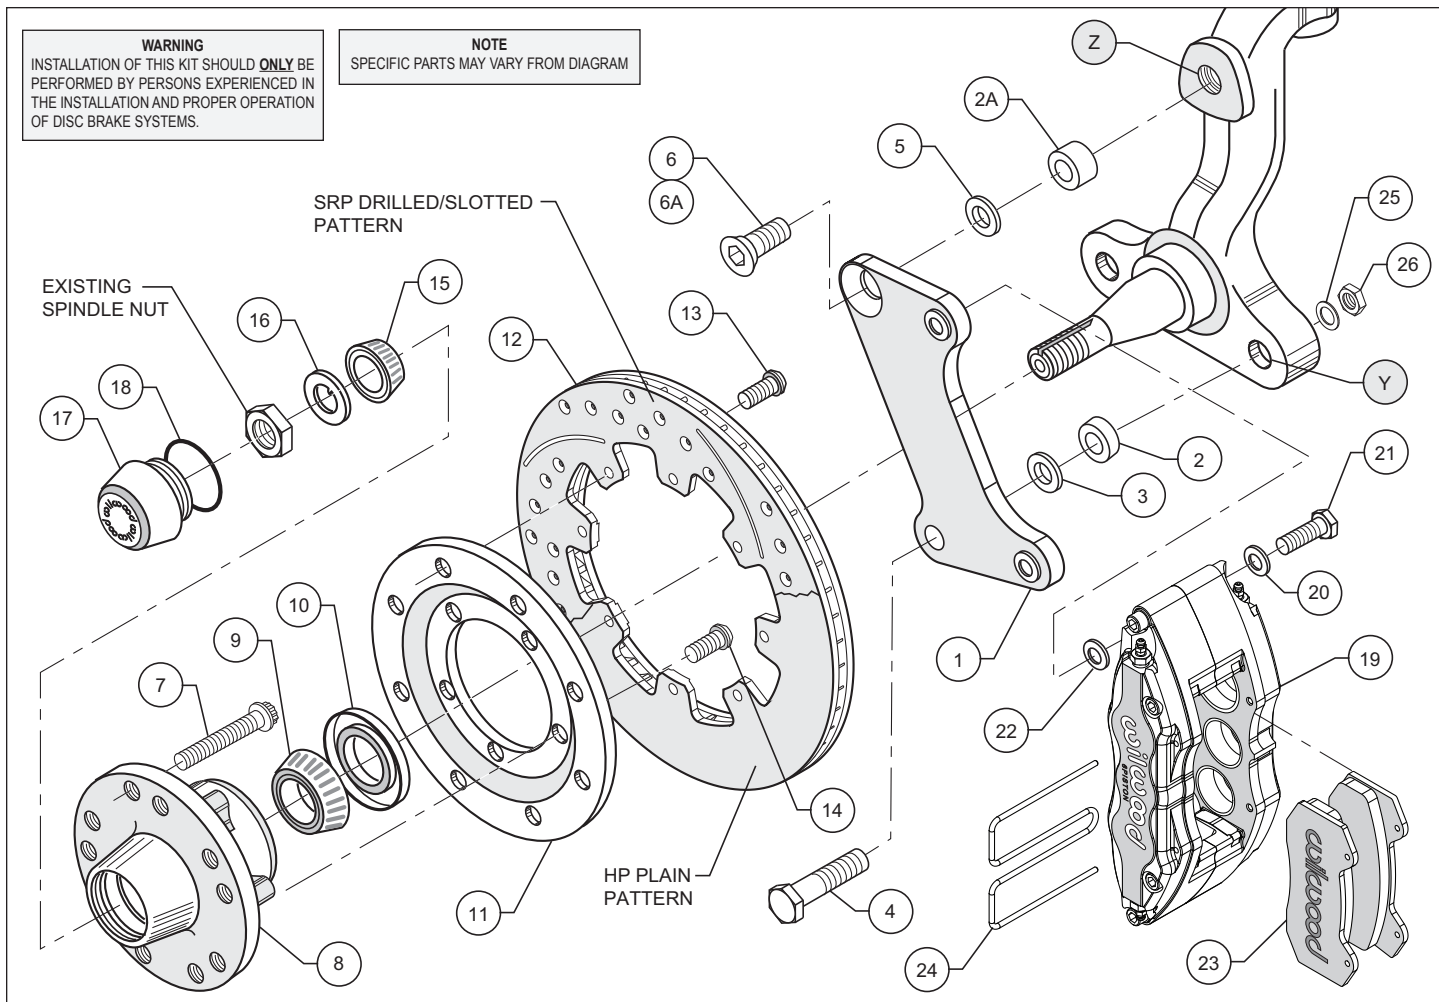
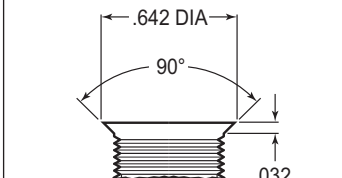
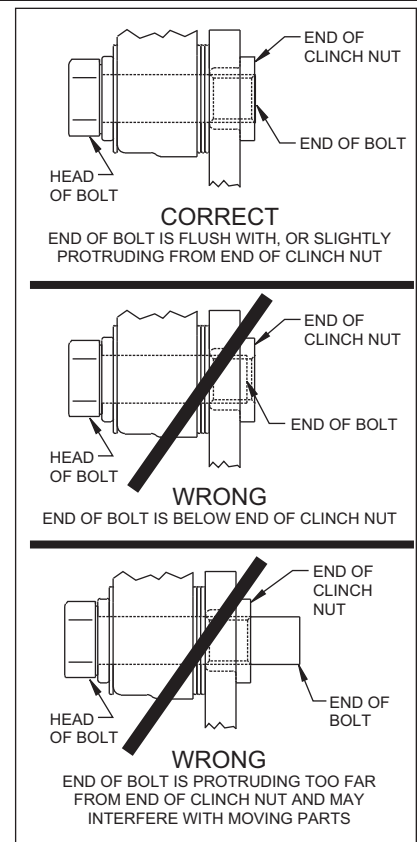

Figure 1. Typical Installation Configuration
Figure 3. Drill and Tap Detail
Figure 4.
- NOTE:** 1964-66 spindles may require the following modifications (reference Figure 1 and Figure 3): Top anchor pin hole (Z) must be drilled and tapped to the dimensions as outlined in Figure 3. Bottom rear steering arm bolt hole (Y) in the spindle and steering arm must be enlarged to .50" by drilling. A 1/2-20 backing nut (not supplied in kit) will need to be acquired to torque bracket / steering arm bolt (supplied in kit).
- Apply red *Loctite*® 271 to bolt threads (4 and 6, or 6A for disc spindle application) before assembly of the caliper mounting bracket (1). Mount bracket (1) to dust face plate of spindle using the bottom bolt (4) while positioning washers (2 and 3) between bracket and spindle face then secure from the backside with washer (25) and nut (26), finger tighten only. Slide the upper bolt (6) through the bracket (1) and washer (5) (or, for disc brake spindle, use 6A with spacer 2A and washer 5 positioned between bracket and top hole of spindle face) and into the spindle, torque to 140 ft-lb. Torque bolts(4) to 85 ft-lb. **NOTE:** Be sure the heads of the bracket (1) insert nuts are facing outward toward the wheel.
- Install wheel studs (7) into the hub (8). Torque to 77 ft-lb. **NOTE:** There are two five lug patterns in the hub (5 x 4.50 and 5 x 4.75). Make sure of the correct hole pattern for the correct wheel application before installing studs into hub.
- Pack the large inner bearing cone (9) with high temperature disc brake bearing grease (available from your local auto parts store) and install into the backside of the hub (8).
- Install the grease seal (10) by pressing into the backside of the hub (8).
- Orient the rotor (12) and the rotor adapter (11) as shown in Figure 1. Attach the rotor to the adapter using bolts (13). Using an alternating sequence, apply red *Loctite*® 271 to the threads, and torque to 25 ft-lb.
- Mount the adapter/rotor assembly (11/12) to the hub (8) using bolts (14), as shown in Figure 1. Using an alternating sequence, apply red *Loctite*® 271 to the threads, and torque to 55 ft-lb.
- Pack the small outer bearing cone (15) with high temperature disc brake bearing grease and install into front of hub (8). Slide the hub/rotor assembly (8 and 12) with outer bearing cone (15) onto the spindle. Secure using spindle washer (16), stock adjusting nut and nut locking device. Adjust bearings per Original Equipment Manufacturer (OEM) specifications.
- Install the dust cap (17) onto the hub (8). Friction created by the o-ring (18) on the dust cap (17) keeps it from unscrewing. The O.D. of the existing spindle washer may be larger than the I.D. of the dust cap (17) not allowing it to seat against the hub face. Some grinding on the washer O.D. may be necessary to clear the I.D. of the dust cap (17).
- NOTE:** Please reference the caution statement at the beginning of the assembly instructions. This kit contains distinct right and left hand calipers that must be mounted in a specific direction, as described below. Mount the caliper (19) onto the caliper bracket (1) using bolts (21) and washers (20), as shown in Figure 1. Initially place two .032" thick shims (22) on each bolt between the caliper and the bracket. Ensure that the caliper is mounted so the largest pistons are at the rotor exit end of the caliper, in relation to the direction of rotor rotation. Temporarily tighten the mounting bolts and view the rotor (12) through the top opening of the caliper. The rotor should be centered in the caliper. If not, adjust by adding or subtracting shims (22) between the bracket and the caliper. Always use the same amount of shims on each of the two mounting bolts. **NOTE:** The end of the bolt must be flush with or slightly protruding from the head of the clinch nut in the bracket. If necessary, place spare shims between the washer and the caliper mounting ear to achieve the proper clinch nut engagement, as shown in Figure 4. Once the caliper alignment and clinch nut engagement are correct, remove the bolts one at a time, apply red *Loctite*® 271 to the threads, and torque to 40 ft-lb.
- Install the disc brake pads (23) and secure using cotter pin (24). Repeat procedure for the other wheel.